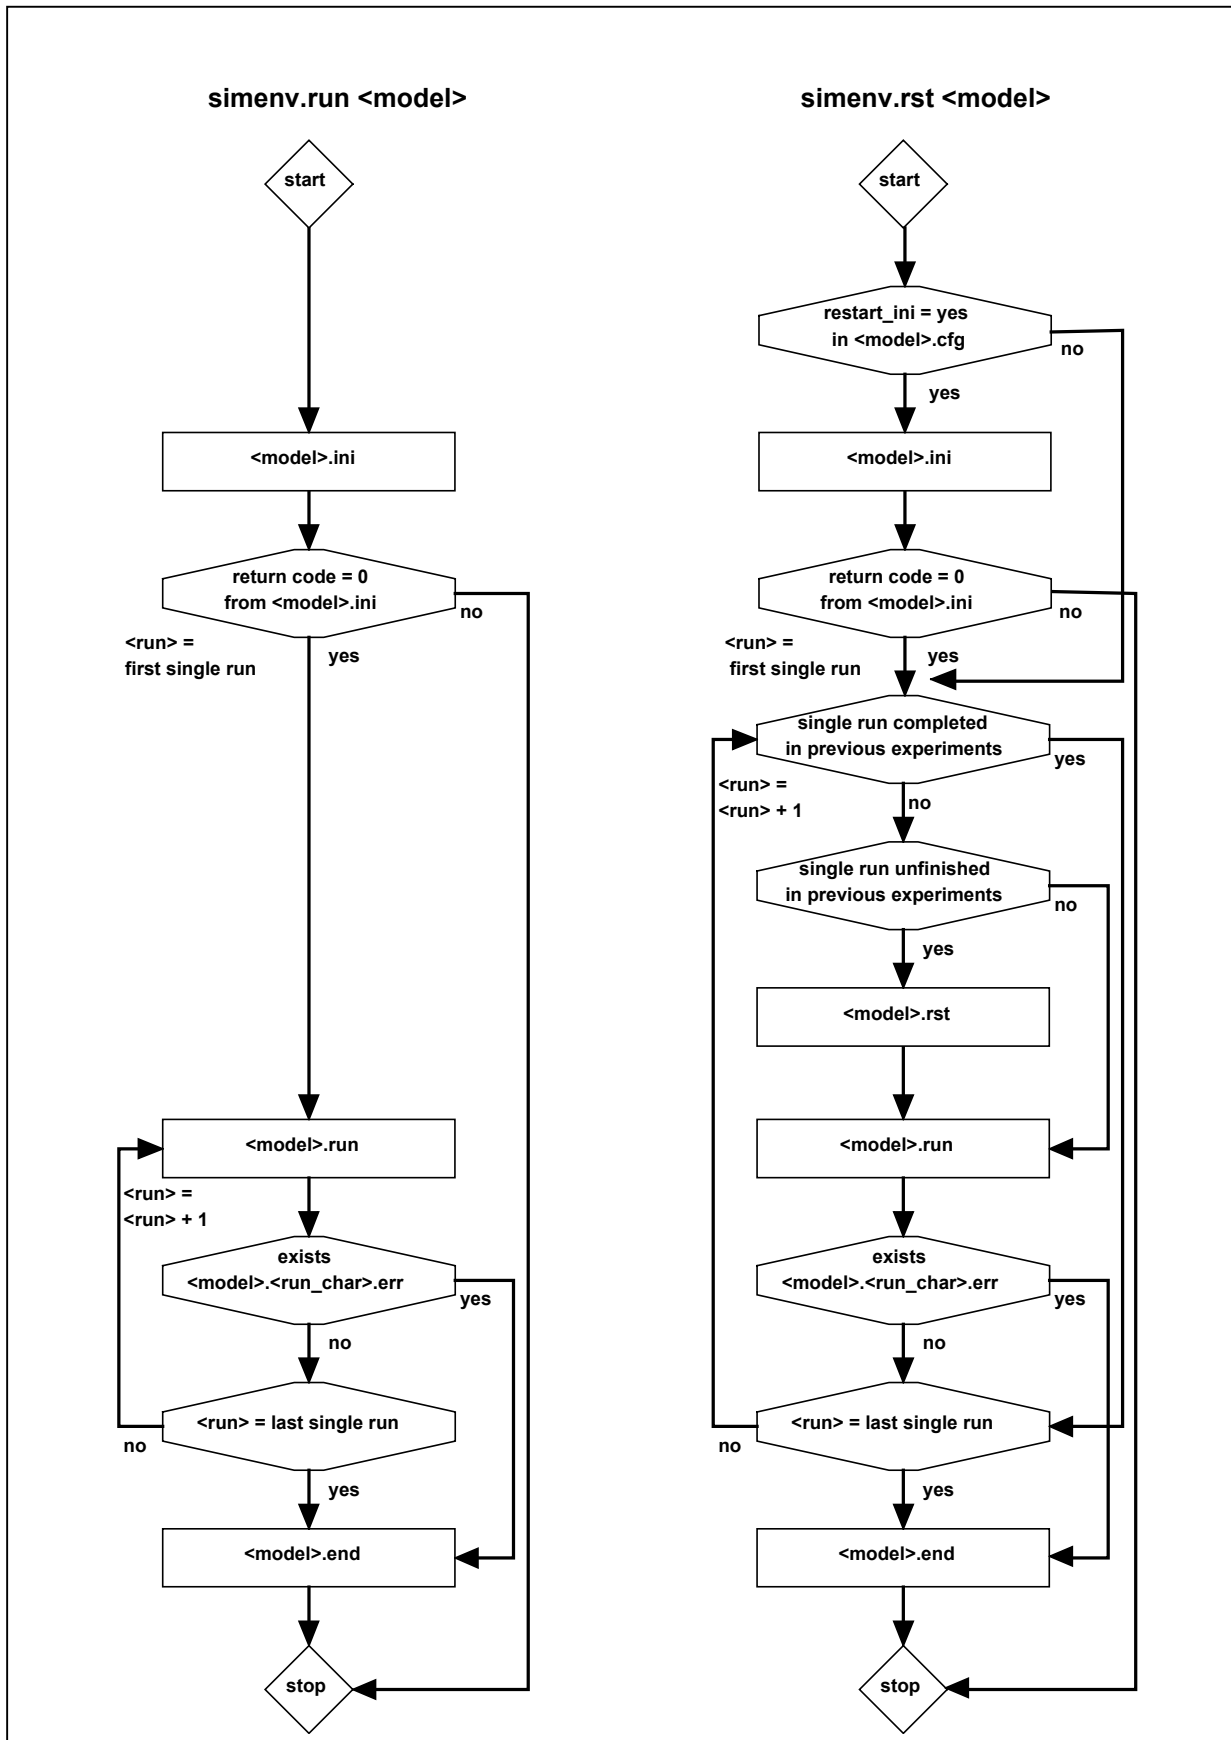

Fig. 7.1 Flowcharts for performing *simenv.run* and *simenv.rst*
- For more information check Fig. 7.1.